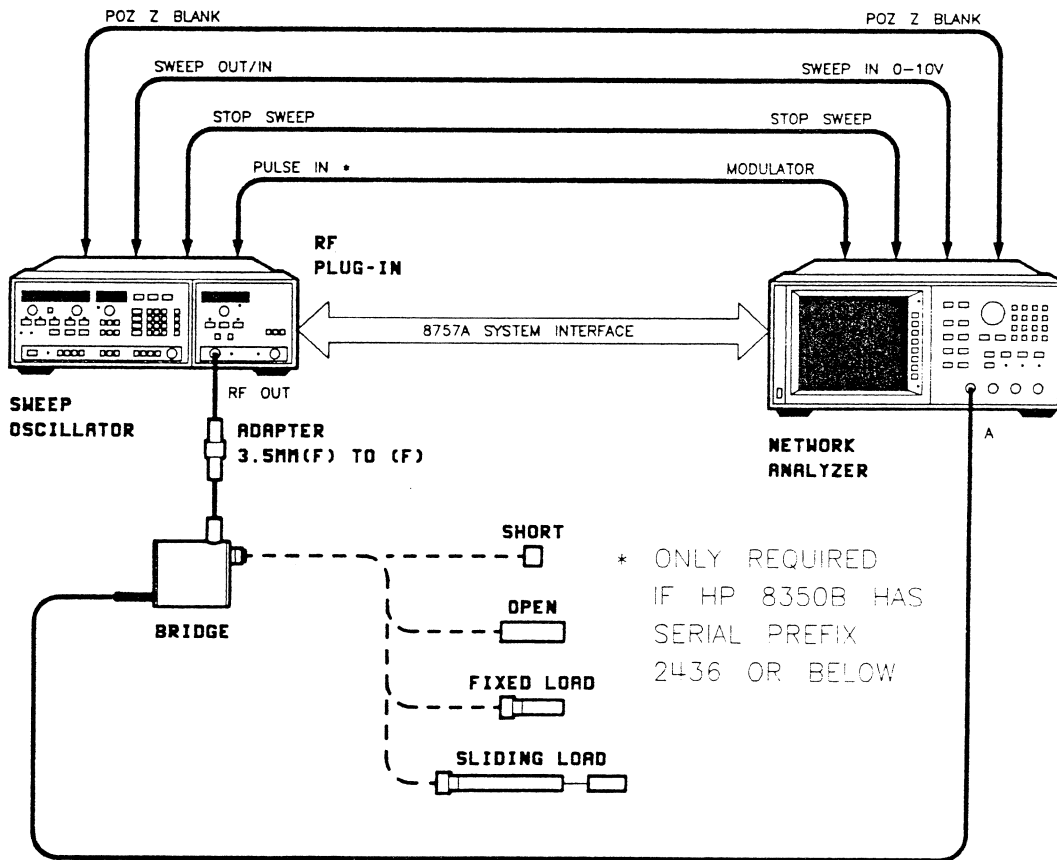

Figure 4-a. Directivity Performance Test Setup
1. Connect the equipment as shown in Figure 4-a. Do not connect anything to the bridge test port yet.